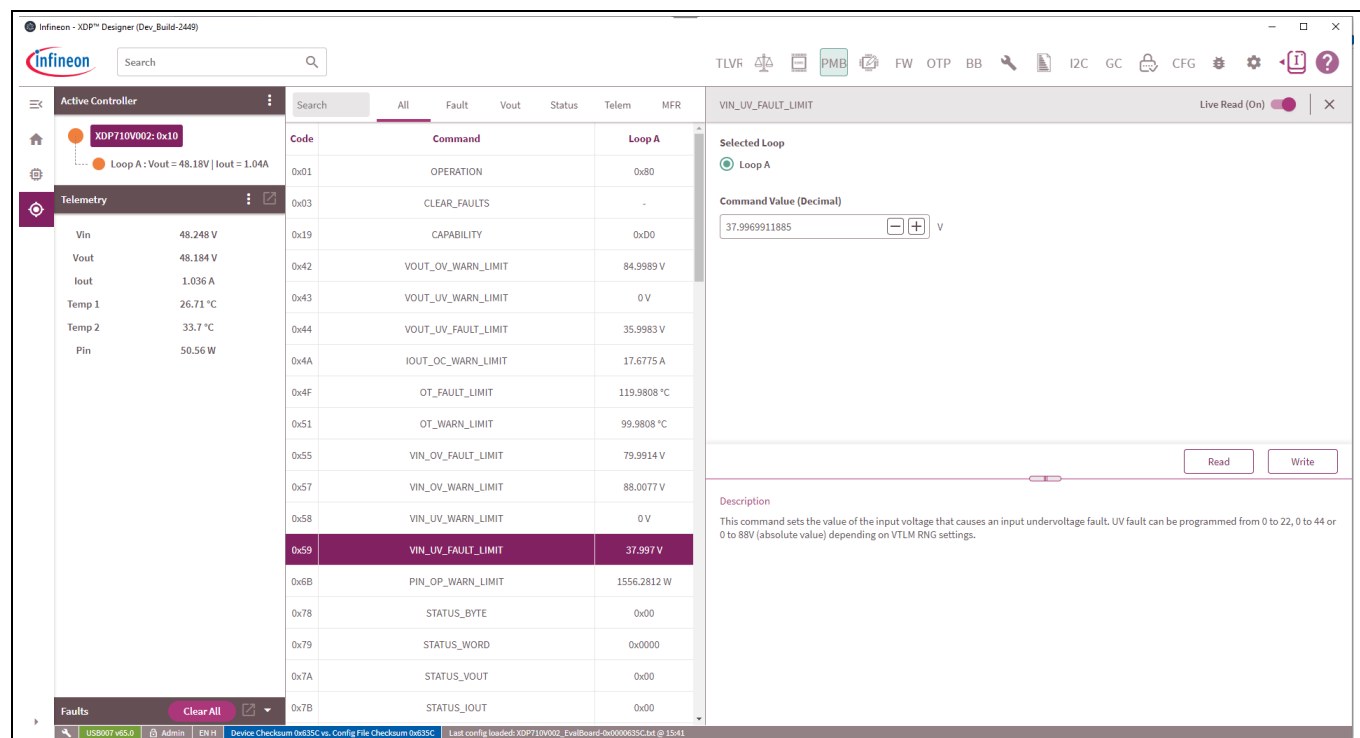

Figure 37 Write 38 V to VIN_UV_FAULT_LIMIT
2. Write 38 V to VIN_UV_FAULT_LIMIT register, as shown in Figure 37.